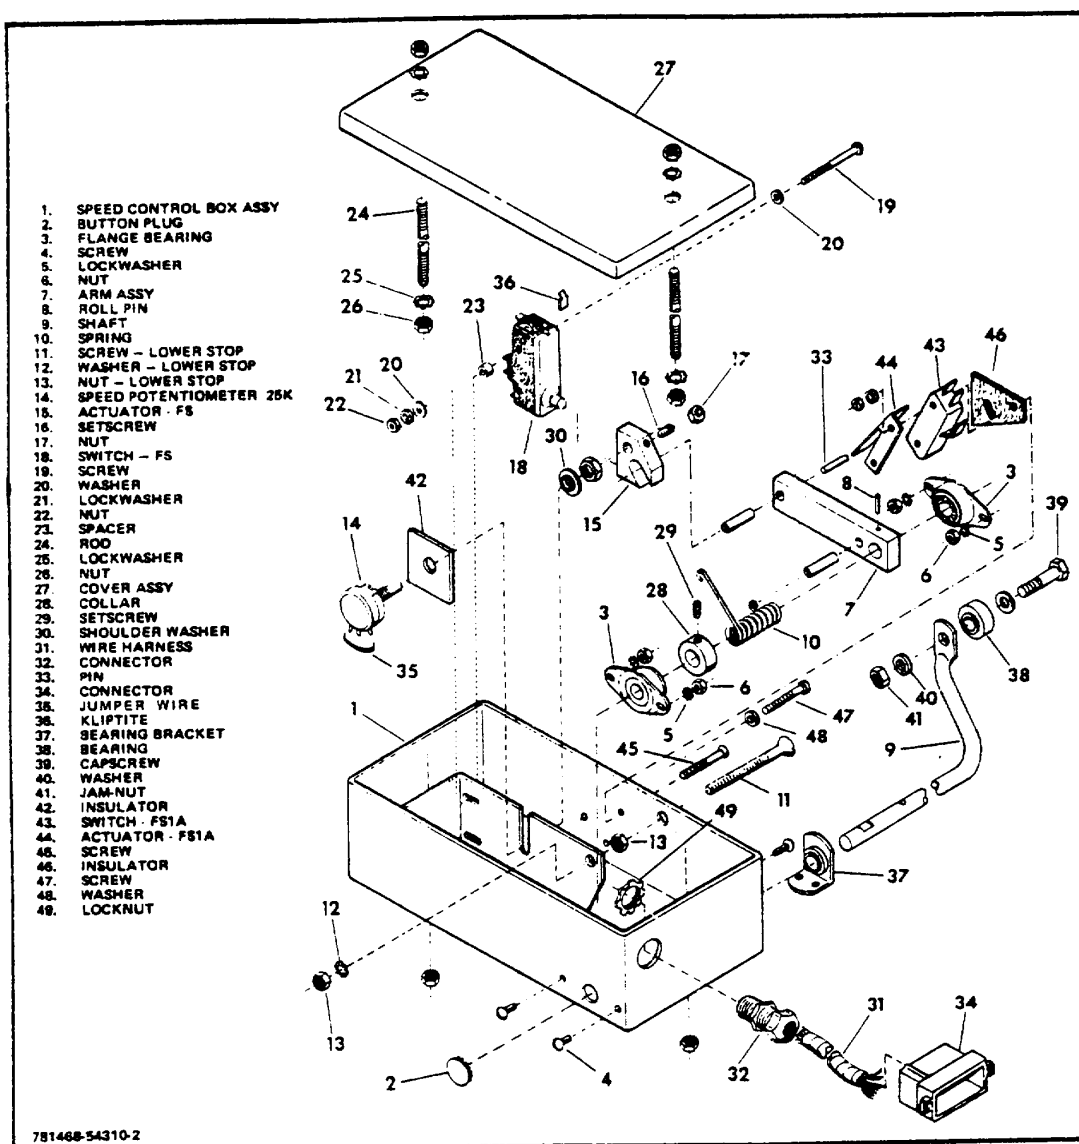

Figure 6-2. Speed Control Box (Exploded View)
1. Remove the speed control box assembly cover. Disconnect the speed control box wiring harness from the main wiring harness and disconnect the harness (Fig 6-2).